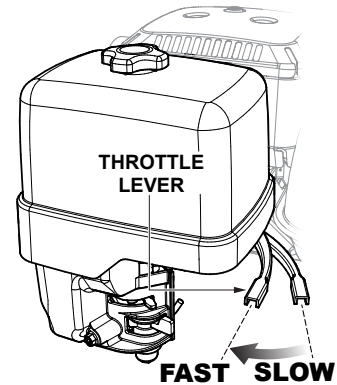

Figure 12. Throttle Lever (Run)
- To begin pumping, place the throttle lever in the **RUN** position (Figure 12).